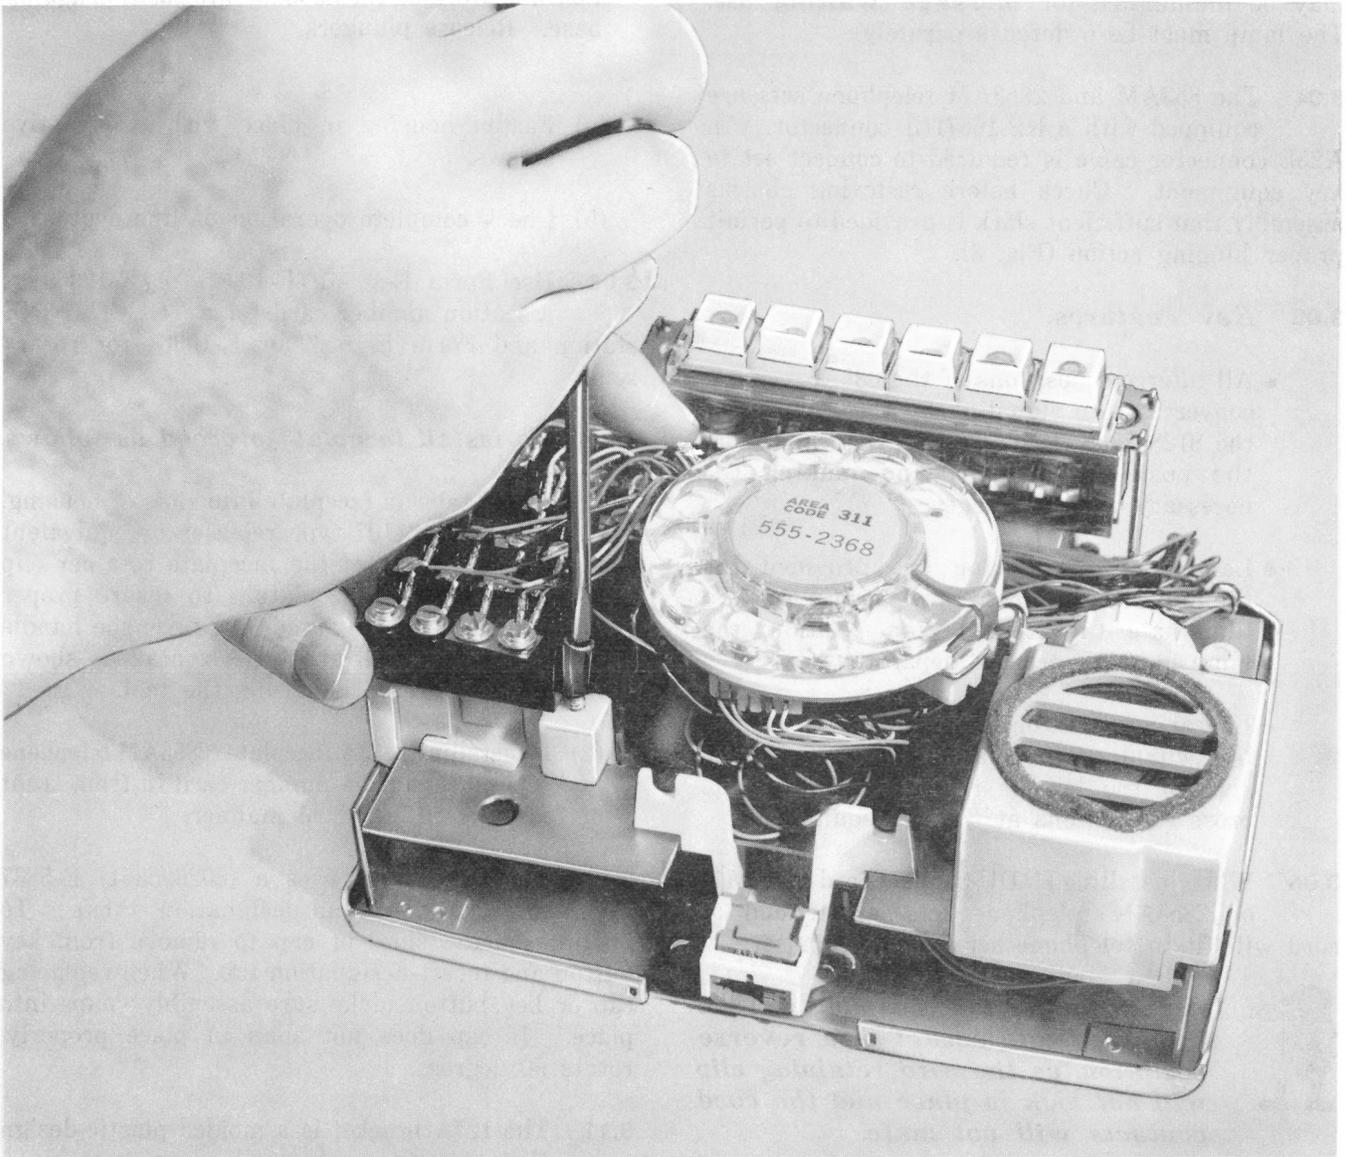

Fig. 4—Removing Terminal Board Mounting Screw
- (1) Insert tabs on faceplate into slots of housing. Use a KS-21107 type releaser or equivalent to depress the tab of the faceplate retainer clip while seating the faceplate. To insure proper positioning of the retainer clip, raise the handle of the releaser well above horizontal, as shown in Fig. 4 before withdrawing the tool.
- (2) If installing 2853A faceplate (2853AM telephone set) place station number card in from front of faceplate in standard manner.
5.02 When dial replacement is necessary in the 853AM telephone set, use an 8RA dial. First remove terminal board mounting screw as shown in Fig. 4. Remove dial by loosening adapter
5.03 When dial replacement is necessary in the 2853AM telephone set, use the 35Y3A dial. First remove terminal board mounting screw as shown in Fig. 4. Then rotate terminal board upward to gain access to dial mountin screws.